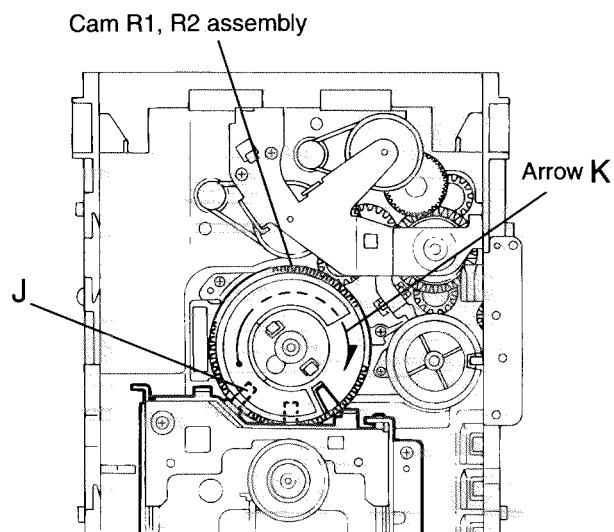

Fig.11
### ■ Removing the CD traverse mechanism (See Fig.11 and 12 )
1. For dismounting only the CD traverse mechanism without removing the CD loading mechanism assembly, align the shaft "J" of the CD loading mechanism assembly to the position shown Fig.11 while turning the cam R1 and R2 assembly in the arrow direction "K".